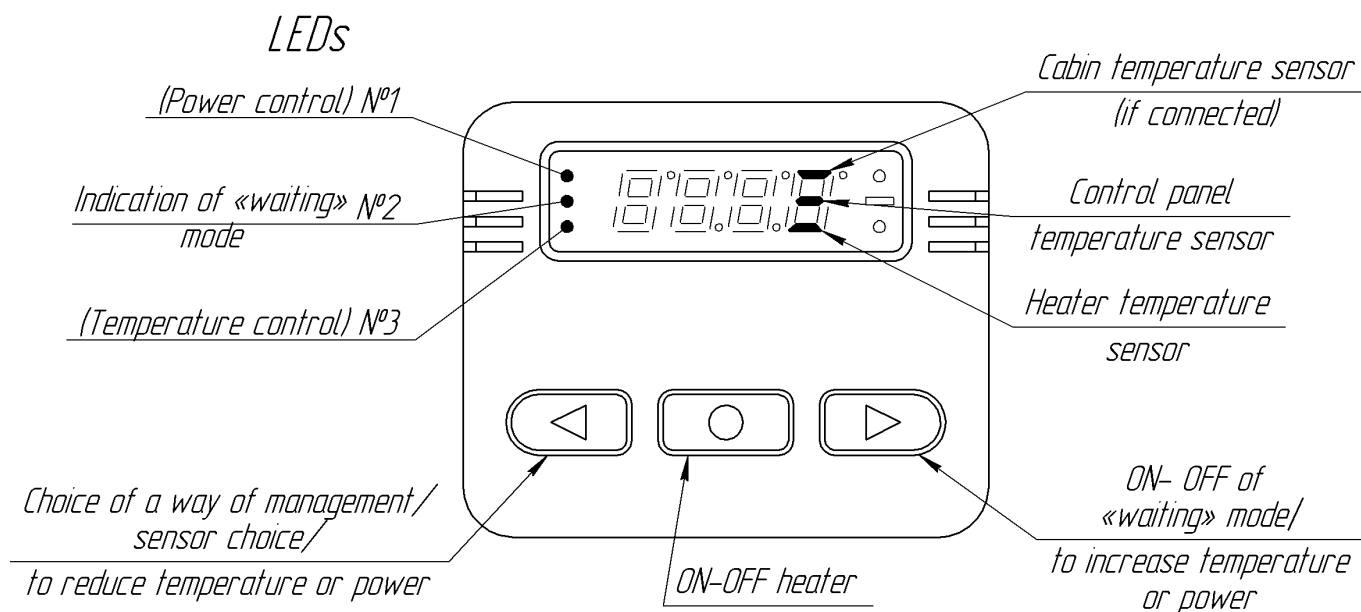

Fig. 6.1- Control panel
6.2 The front board of the panel contains: four-digit light emitting diode (LED) indicator, three LEDs and three knobs. Functionality of the knobs and LEDs. (fig.6.1)